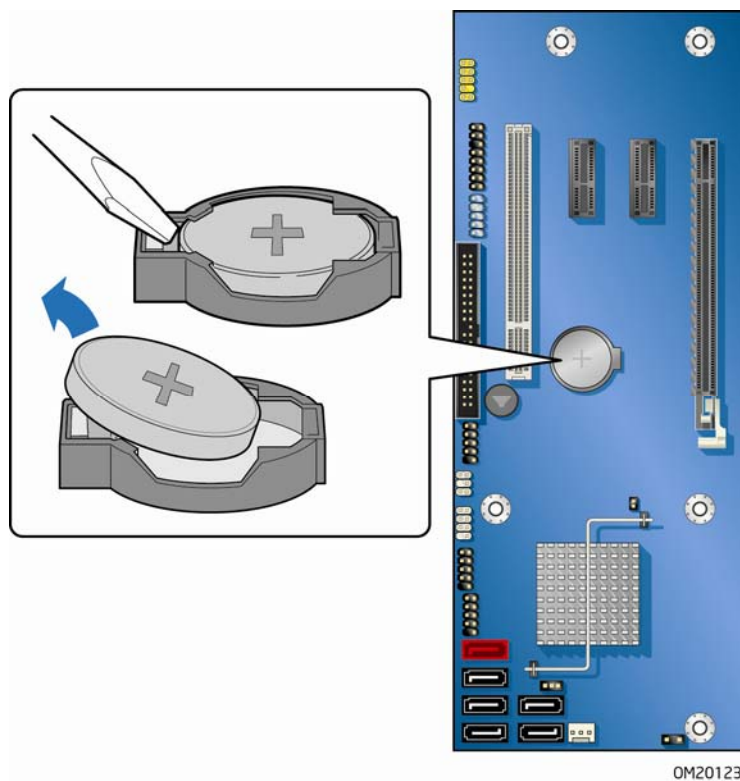

Figure 28. Removing the Battery
When the voltage drops below a certain level, the BIOS Setup program settings stored in CMOS RAM (for example, the date and time) might not be accurate. Replace the battery with an equivalent one. Figure 28 on page 63 shows the location of the battery.
4. Locate the battery on the board (see Figure 28).